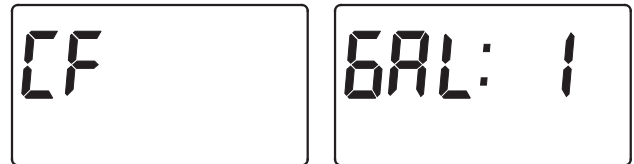

FIG. 38
4. **CHEMICAL FEEDER TRIP VOLUME:** If you have set the auxiliary output control to CF (Chemical Feeder), you will need to set the volume of water which must flow past the turbine* before the auxiliary output is turned on. With the alternating screens in Fig. 38 shown, use the ▲ UP or ▼ DOWN buttons to set the trip volume, in gallons. Then press the SELECT button to display the screen shown in Fig. 39.